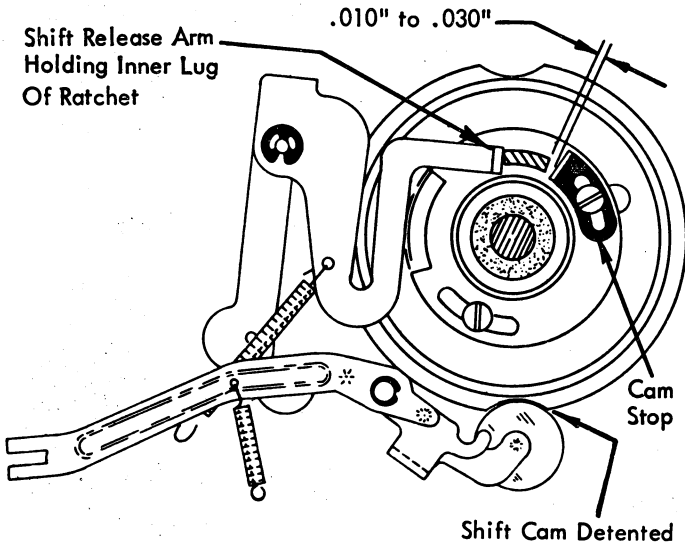

FIGURE 68. Shift Cam Stop Adjustment
3. **Shift Cam Stop** - Adjust the stop so that the shift clutch ratchet has .010" to .030" rotary motion between the shift cam stop and the shift release arm with the mechanism at rest (Fig. 68).